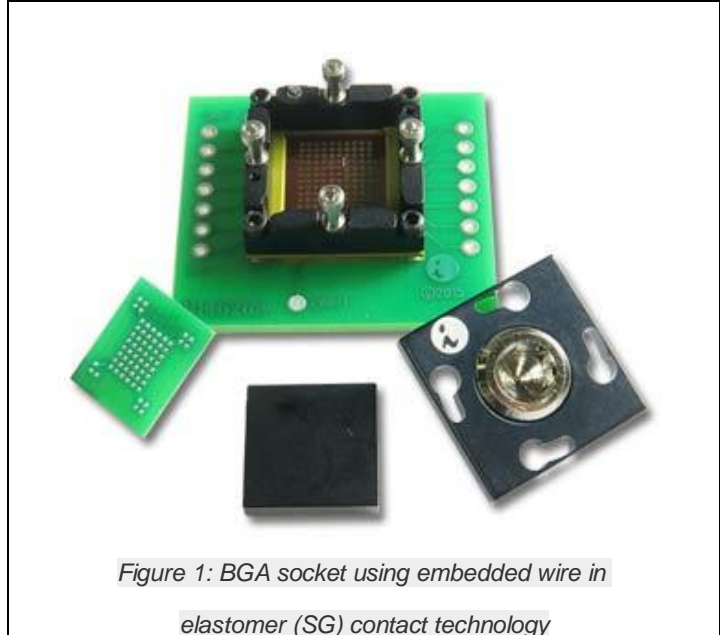

Figure 1: BGA socket using embedded wire in elastomer (SG) contact technology
Figure 1 shows a BGA socket using embedded wire in elastomer (SG) contact technology. The SG elastomer consists of fine pitch matrix (0.05mm x 0.05mm) of gold plated wires (20 micron diameter), which are embedded at a 63-degree angle in a soft insulating sheet of silicone rubber.